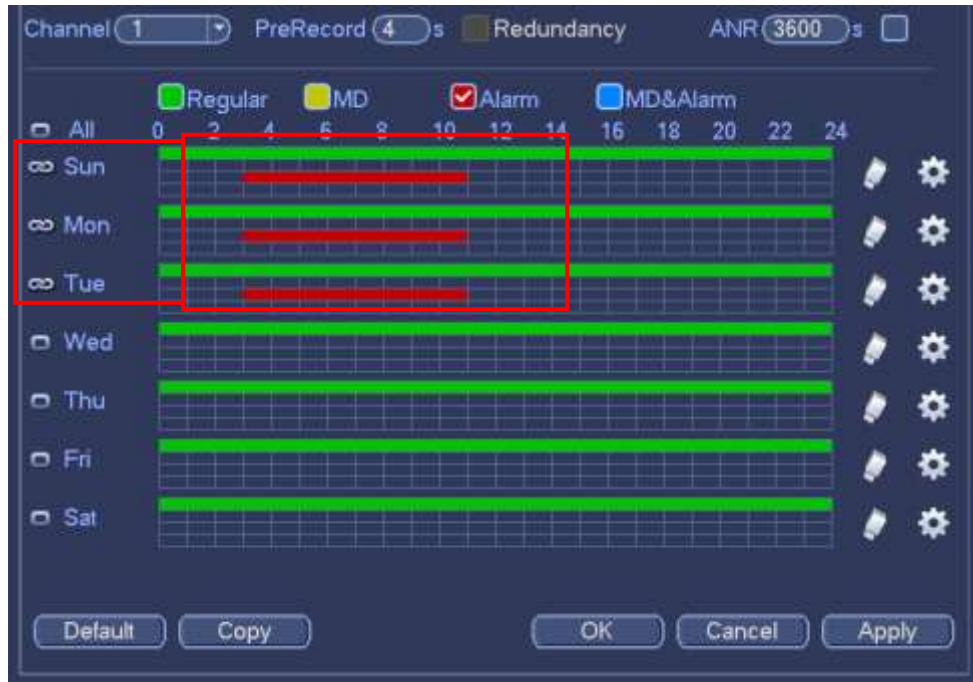

Figure 4-62
- c) Please draw manually to set record period. There are six periods in one day. See Figure 4-62.